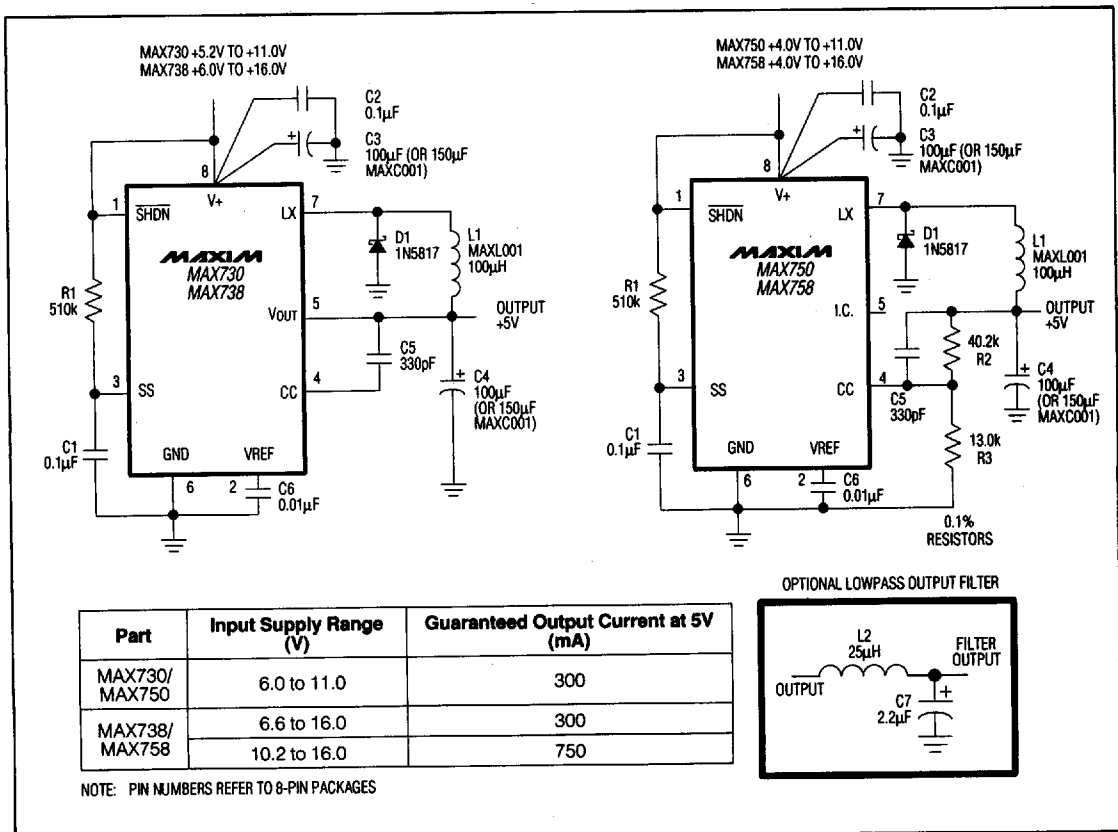

Figure 3. Standard +5V Step-Down Application Circuit
Figure 3 shows both the standard 5V and the adjustable step-down application circuits. These circuits are useful in systems that require high current and high efficiency and are powered by an unregulated supply, such as a battery or wall-plug AC-DC transformer. These circuits will operate over the entire line, load, and temperature ranges using the single set of component values shown. All components shown are suitable for the MAX730/738/750/758. The actual value of the input and output capacitors is not critical as long as it is greater than 100 μ F, has low ESR, and has sufficient voltage rating.
For other output voltages, the MAX750/MAX758 have adjustable outputs from 1.25V to the input voltage. To adjust for other output voltages, connect a voltage divider to the compensation capacitor input (CC) pin as shown in Figure 3.
A simple lowpass pi-filter (Figure 3) can be added to the output to reduce output ripple to about 5mVp-p. The cutoff frequency shown is 21kHz. Since the filter inductor is in series with the circuit output, its resistance should be kept to a minimum so the voltage drop across it is not excessive.